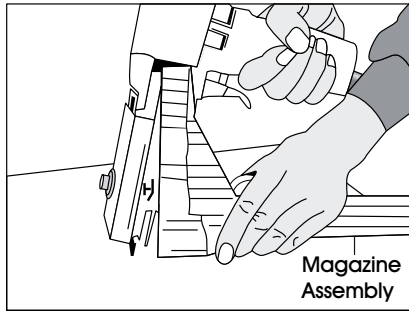

Figure 17
3. Remove the magazine assembly. (See Figure 17)